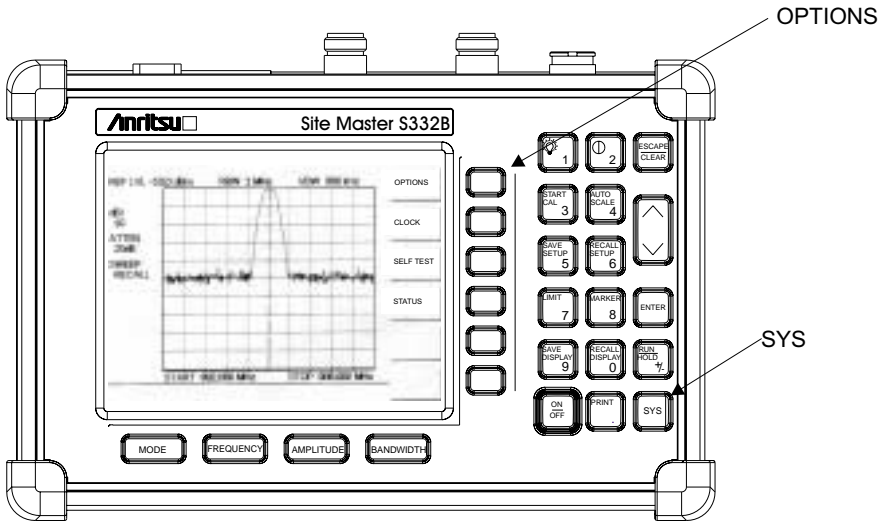

Figure 3-12. SYS Key and OPTIONS Soft Key
**Step 3.** Press the **SYS** key and the **OPTIONS** soft key (Figure 3-12) .